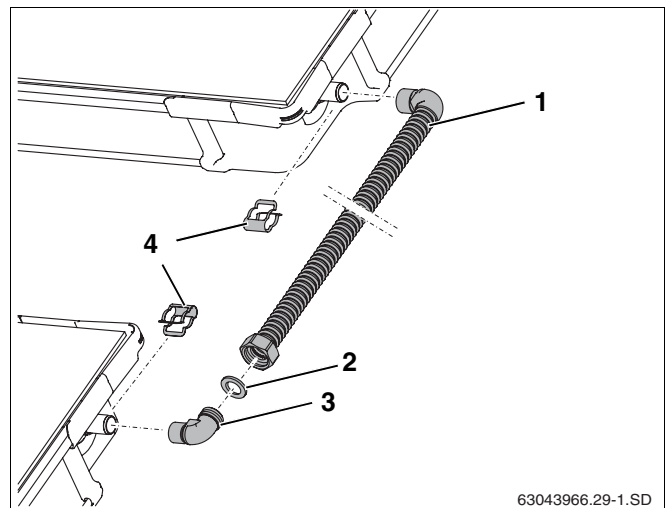

Fig. 60 Connection set between two collector rows
If you need to shorten the connection pipe (Fig. 60, **Item 1**), observe the installation steps described in "Making the sealing face:", page 38.
- ▶ Insert gasket (Fig. 60, **Item 2**) into nut.
- ▶ Insert bracket (Fig. 60, **Item 3**) into nut, align and screw tight.
- ▶ Push connection pipe (Fig. 60, **Item 1**) onto the collector connections and fix in place using brackets (Fig. 60, **Item 4**) from the connection kit.